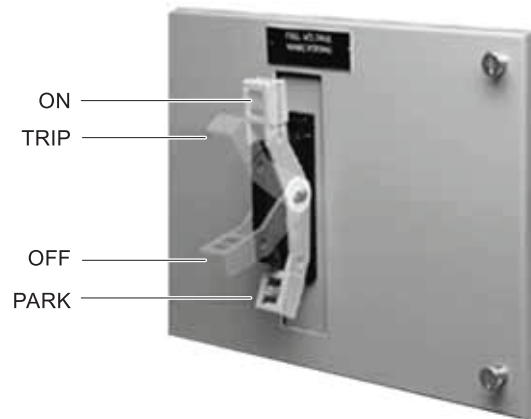

Figure 3 - Operating Handle Positions
2.1. Put disconnect operating handle in the PARK position (See Figure 3).